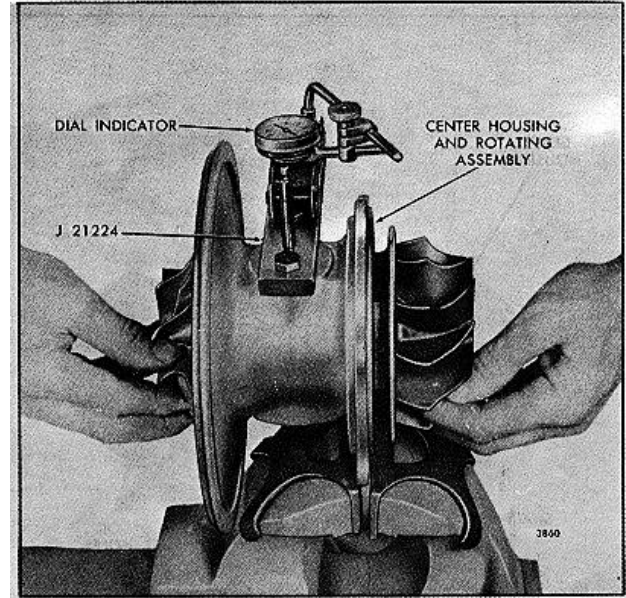

FIG. 35 - Checking Shaft Radial Movement
- a. Clamp the flange of the center housing in a bench vise equipped with soft jaws (Fig. 35), with the oil outlet opening in the center housing facing up.
- d. Raise the rotating assembly up by hand as shown in Fig. 35 and note the indicator reading. Then push the rotating assembly down by hand and note the indicator reading.